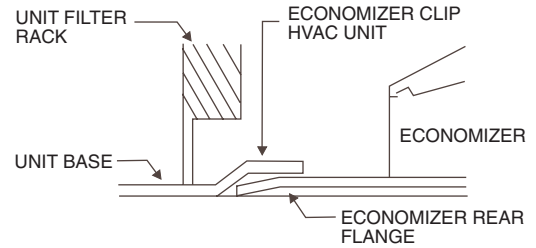

Fig. 24 — Completed Hood Assembly
6. Slide the EconoMi\$er assembly into the rooftop unit. See Fig. 24 and 25.
NOTE: Be sure to engage rear EconoMi\$er flange under tabs in return air opening of the unit base. See Fig. 24.